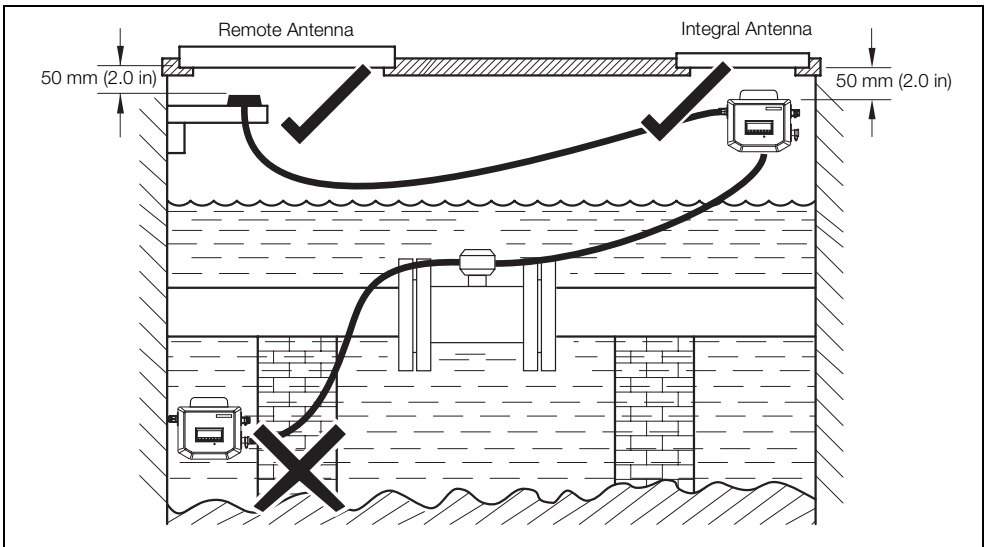

Fig. 2.20 GSM Antenna Installation
- the antenna is mounted 50 mm below the chamber cover, which must be plastic – see Fig. 2.20
- Ensure the antenna will not become submerged under water – see Fig. 2.20.